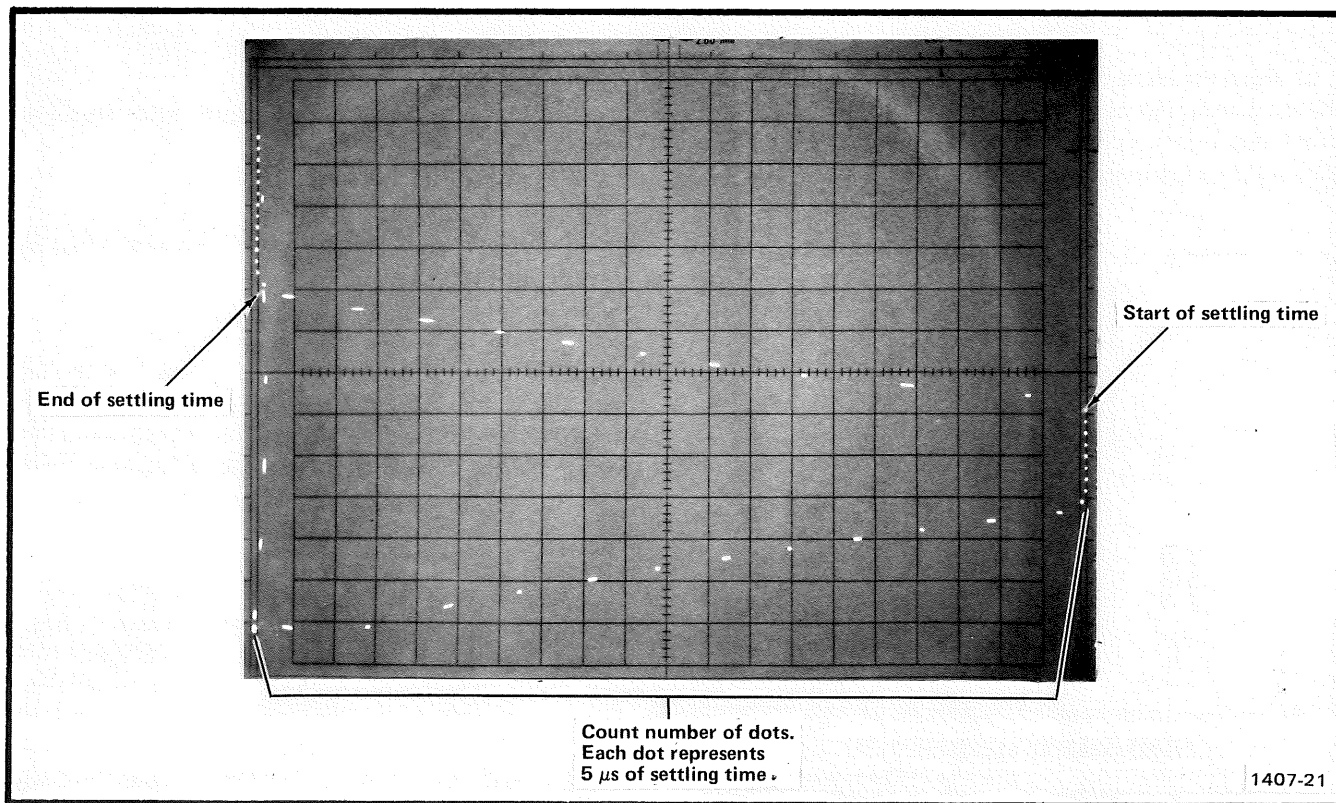

Fig. 3-10. Measurement of settling time on the long-axis.
i. Turn down the 613 INTENSITY, interchange the cable connections to the 613 X and Y rear panel inputs, and turn up the INTENSITY again to obtain a display in the Long-axis direction; see Fig. 3-10. Adjust the appropriate sweep length and waveform amplitude with the Sweep Attenuator and PG501 Output Amplitude. Use the PG501 Pulse Duration Variable to position the break-away dot, and count the dots again as in part h.